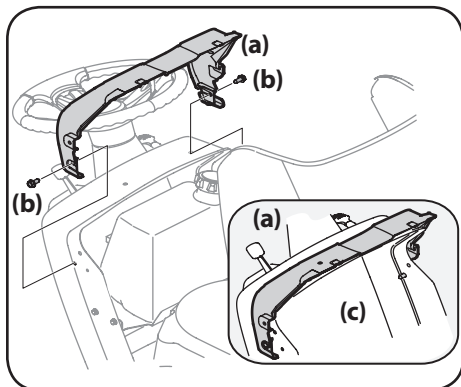

Figure 2-7
- If the dash shroud (a) was shipped loose, the hardware for attaching the dash shroud (a) is shipped installed in the dash shroud (a). Remove the two bolts (b) from the dash shroud (a). See Figure 2-7.
- Mount the dash shroud (a) and align the mounting holes. See Figure 2-7.
- Secure the dash shroud (a) to the dash (c) with the bolts (b) removed in Step 1. See Figure 2-7.